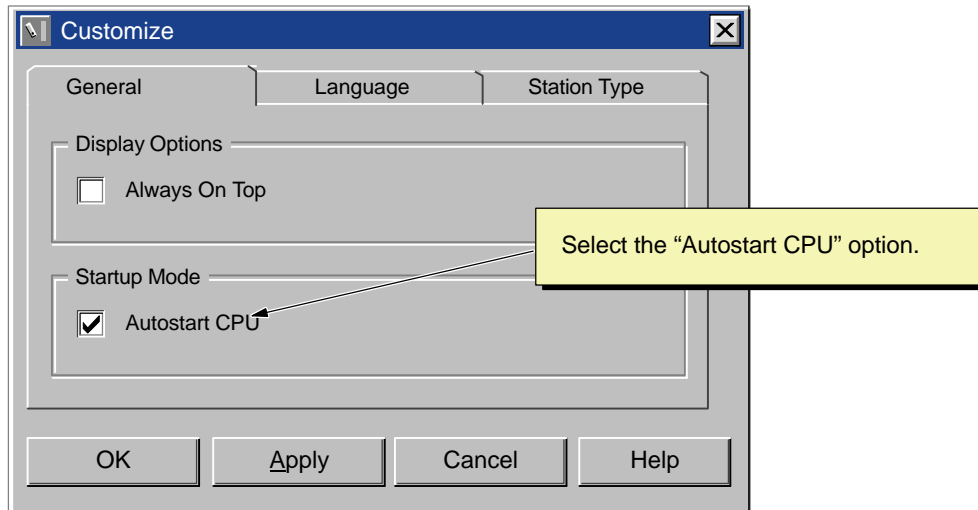

Figure 4-16 Selecting the Autostart Feature
2. In the Customize dialog box, select the General tab and select the “Autostart CPU” option. See Figure 4-16.